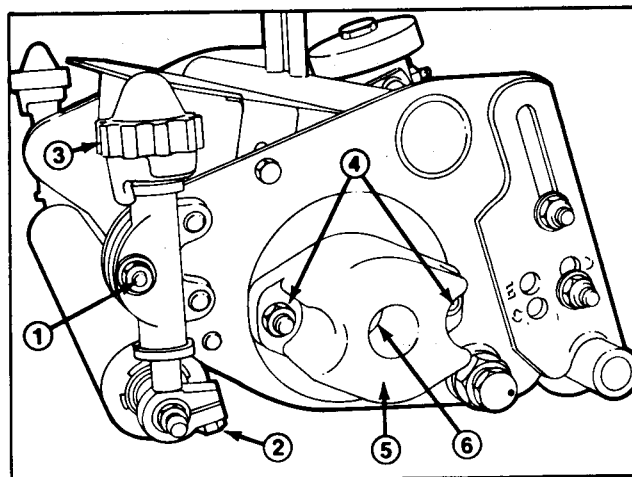

Figure 7
2. Reel bearing rolling torque should not exceed 7 in-lb. Measure with an inch-pound torque wrench (Fig. 7). If bearing drag does not meet above specifications, adjust reel bearings.
1. Remove mounting nuts from counterbalance end cap and remove end cap from mounting studs (Fig. 7).
3. Tighten the large reel bearing adjustment nut (Fig. 7) until all reel shaft end play is removed, then tighten an additional 1/16 to 1/8 turn. Be certain to remove all end play, but do not over-tighten.